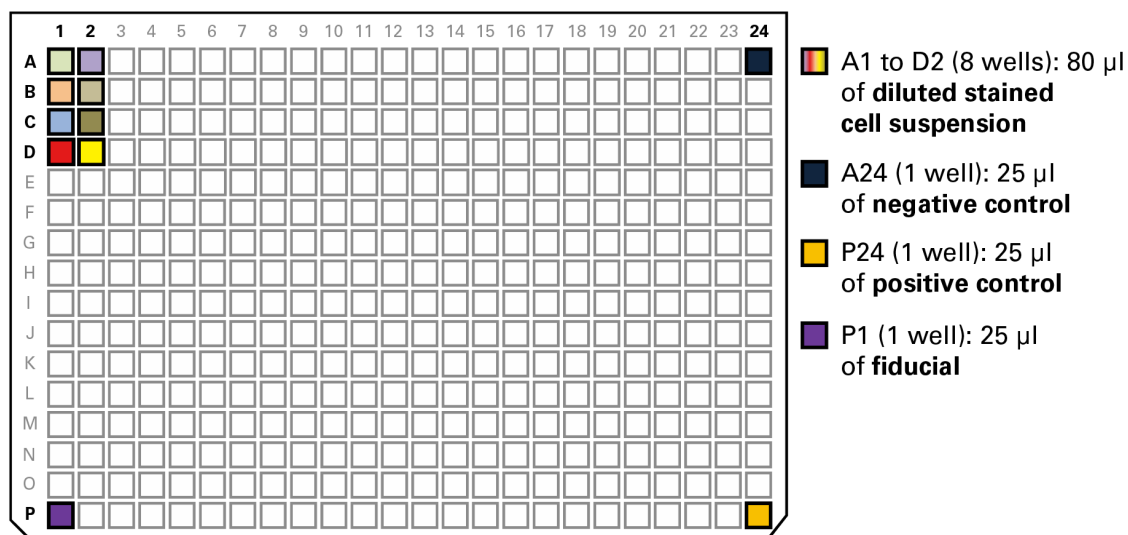

Figure 9. Setting up the MSND 384-Well Source Plate for dispensing cell samples and controls.
†The 1,000 µl total volume of diluted stained cell suspension is sufficient for distributing 80 µl of cell suspension in each of eight source wells (see Figure 9, below).
6. Using a wide-bore 200 µl pipette tip, slowly and carefully load 80 µl of cell suspension into wells A1, A2, B1, B2, C1, C2, D1, and D2 of an MSND 384-Well Source Plate as indicated in Figure 9 (below).
7. Add positive control, negative control, and ICELL8 Fiducial Mix (1X) to the MSND 384-Well Source Plate as indicated in the following steps and in Figure 9 (below):